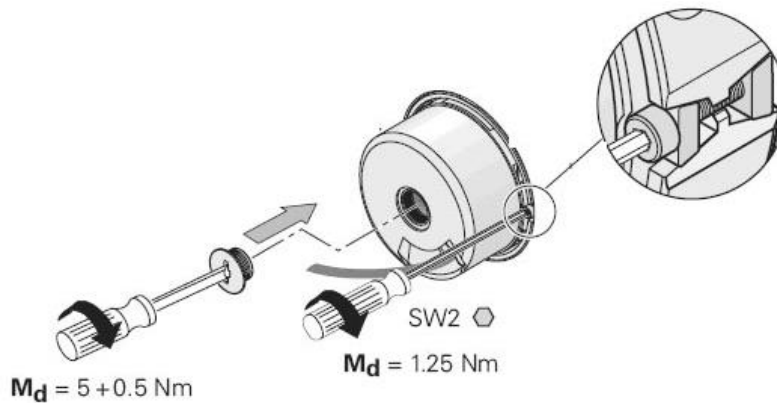

Figure 18: Final installation
4. Install the end cover, and then tighten it. Use 4mm socket Allen and torque wrench to tighten the bolt to 44 in-lb. (5 Nm). See Figure 18.